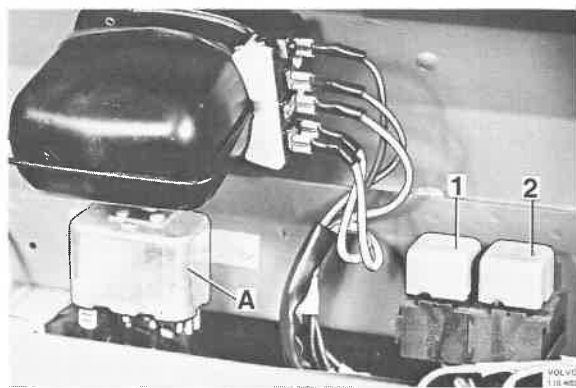

Fig. 36-28. Cut-in relay
1. Pull the relay straight up from the relay socket, see Figs. 36-28 and 36-31.
2. Remove the screws securing the relay, see A Fig. 36-28.